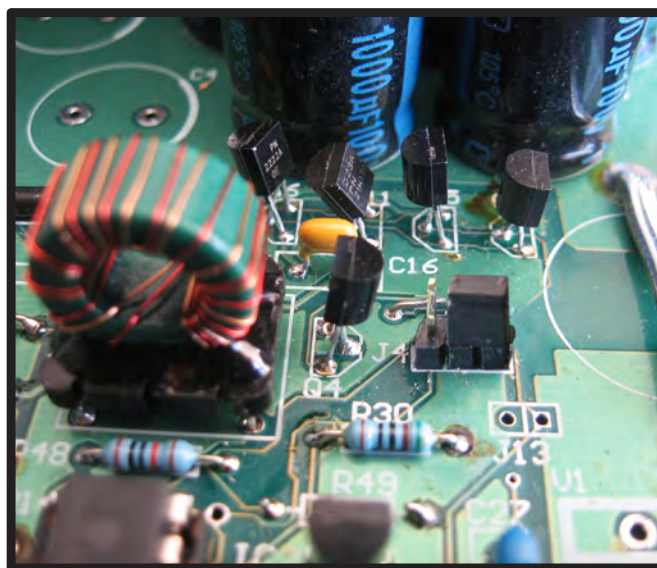

Figure 6 (Above): Sealed Battery Setting
- The above procedure can be repeated to turn back to sealed mode – see **Figure 6**.